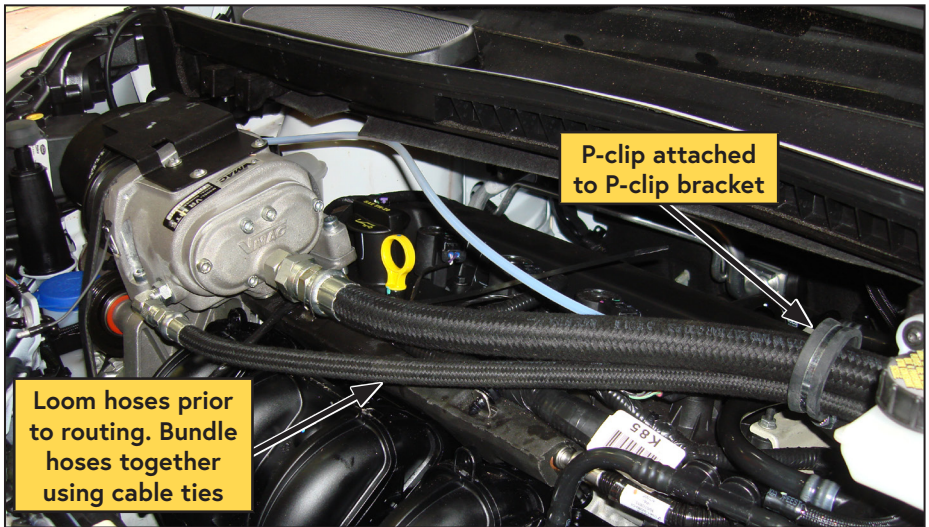

Figure 41 — Install Hoses
- Route the 3/4 in and 3/8 in hoses (with PTFE scavenge tube attached) along the top of the engine, past the P-clip bracket. Secure the hoses to the bracket installed earlier using the supplied P-clip (Figure 41).